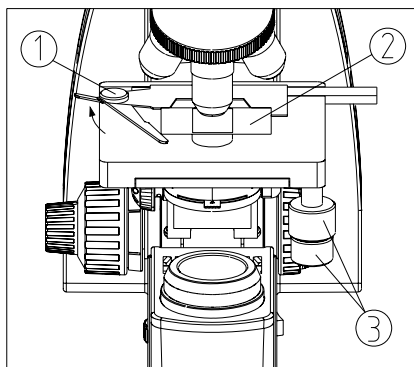

Fig.9
2. Loosen the wrench①, and clamp the slide② by the clips while the cover glass faces up (see Fig. 9).
3. Rotate the X and Y-axis knob③. Move the specimen to the center (alignment with the center of the objective).